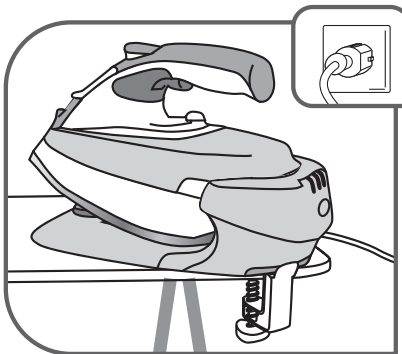

Fig.6
- Connect the base to a 220-240V socket – **fig.6**.